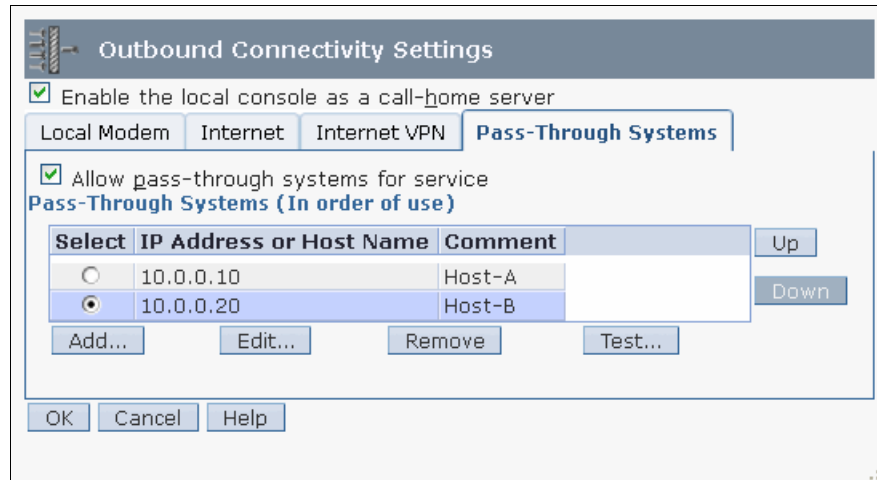

Figure 6-31 Add servers for pass-through access: Results
4. If your selection is successful, you receive a results window similar to what is shown in Figure 6-31. The system that you entered is listed in the area labeled Pass-Through Systems.